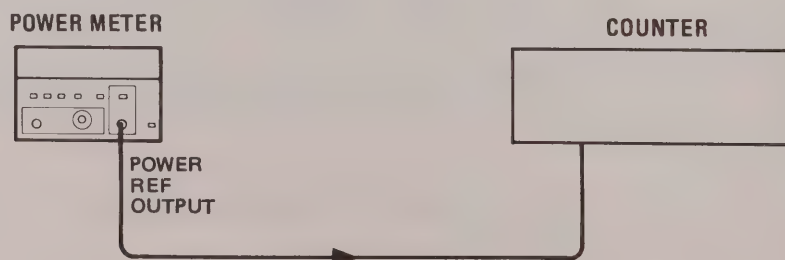

Figure 5-6. Power Reference Oscillator Frequency Adjustment Setup
2. Set up the counter to measure frequency and connect the equipment as shown in Figure 5-6.